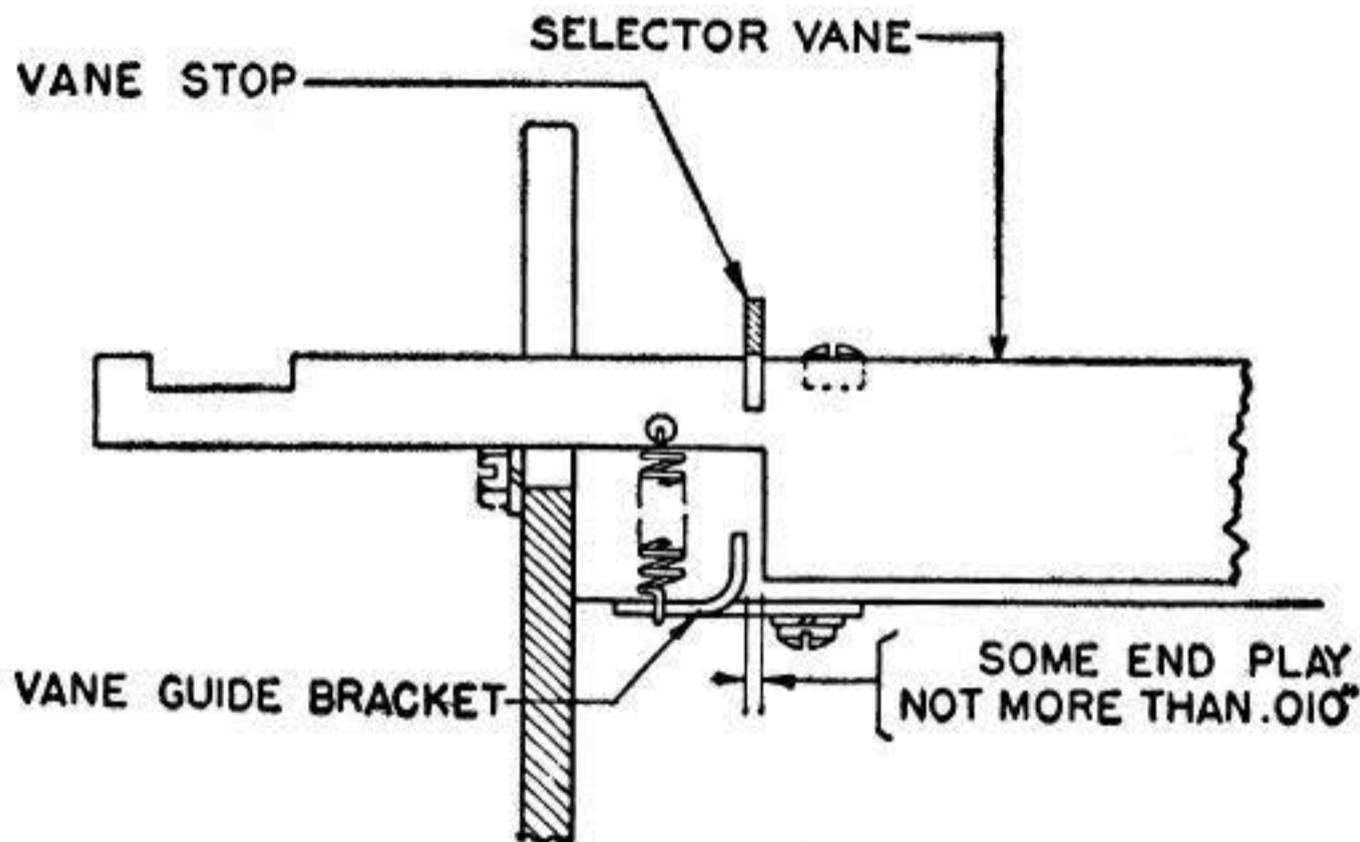

Fig 2
3.02 **Selector-Vanes** should have some endplay, not more than .010". **Fig 2**